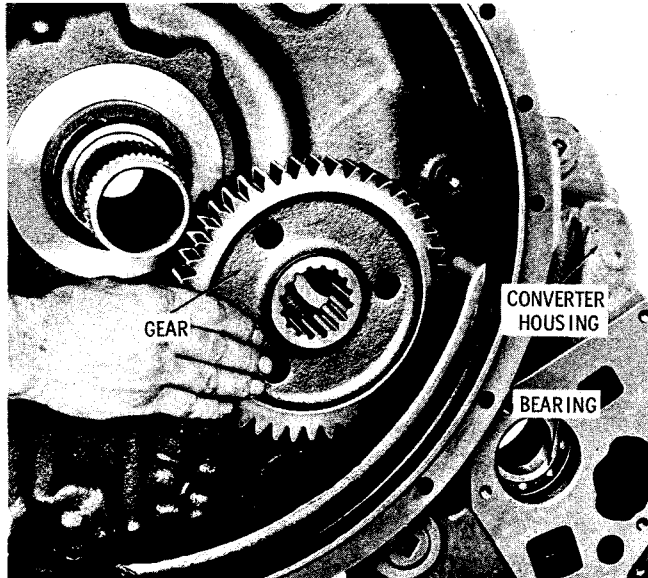

Fig. 7-55. Installing oil pump drive gear
(1) Block the converter housing in an upright position (fig. 7-55). Install the input pres-